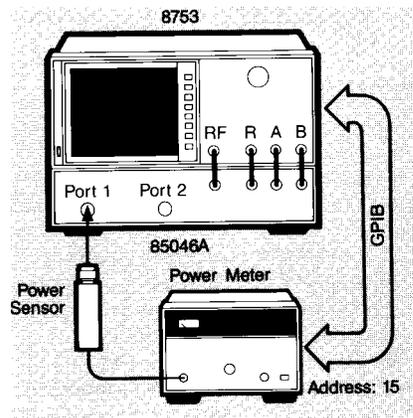

Figure 14. Setup for power meter calibration at amplifier input
5B. (Optional for the 8753B only) For increased accuracy, also perform a power meter calibration at port 1 to remove source and test set nonlinearities with frequency. Attach the 438A power meter to port 1 of the test set. Also, connect GPIB as shown in Figure 14. Make sure the power meter model and address is known by the 8753. Before proceeding, zero the power meter.
1. Connect the instrument as shown in Figure 14 and preset the instrument. Channel 1 will display the amplifier's response to a power ramp. Channel 2 will display amplifier output power to allow easy determination of the 1 dB gain compression output power.